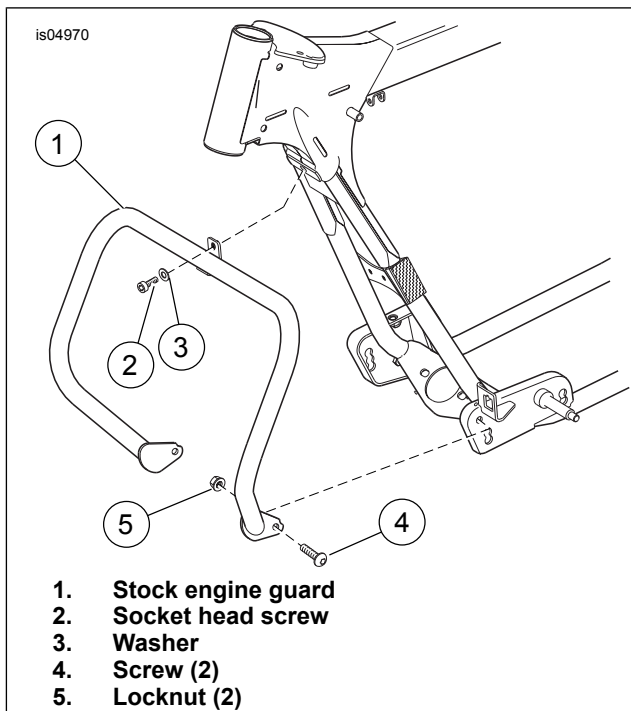

Figure 3. Install Engine Guard
1. See Figure 3. Remove and discard the two screws (4) and locknuts (5) that attach the bottom of the stock engine guard (1) to the motorcycle frame.
2. Remove and discard the hex socket screw (2) and washer (3) holding the top of the guard. Remove the engine guard from the frame, taking care not to scratch the finish on the motorcycle.